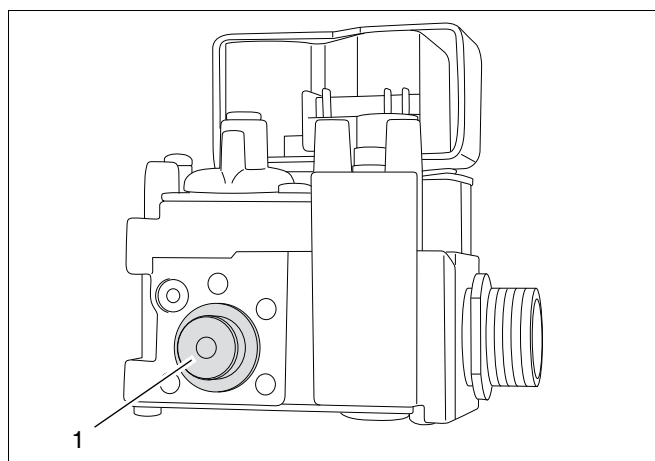

fig. 48 Dismantling the gas orifice
- Remove the gas orifice from the gas control valve (see fig. 48, pos. 1).